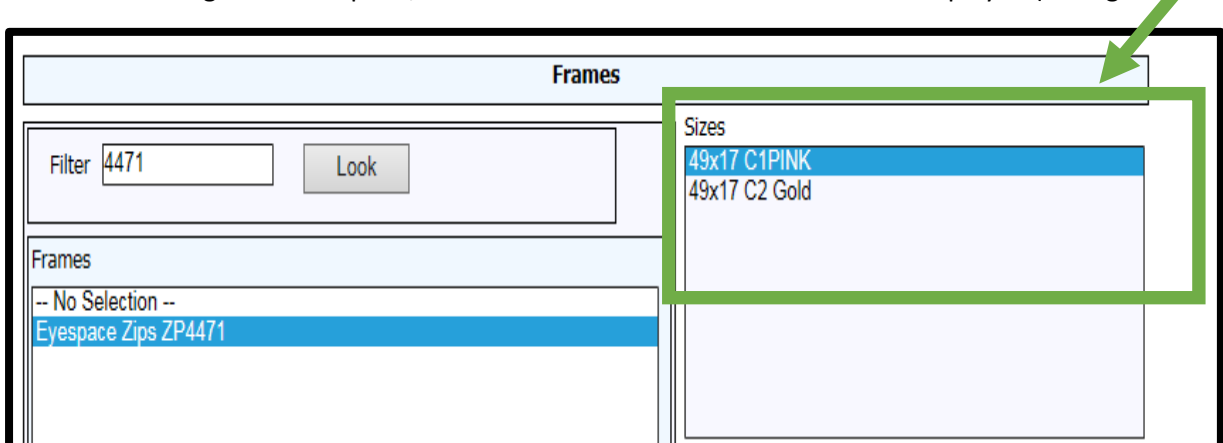

Fig. 9.0
11. In the right window pane, the available frame sizes and colours are displayed (see fig 9.0)